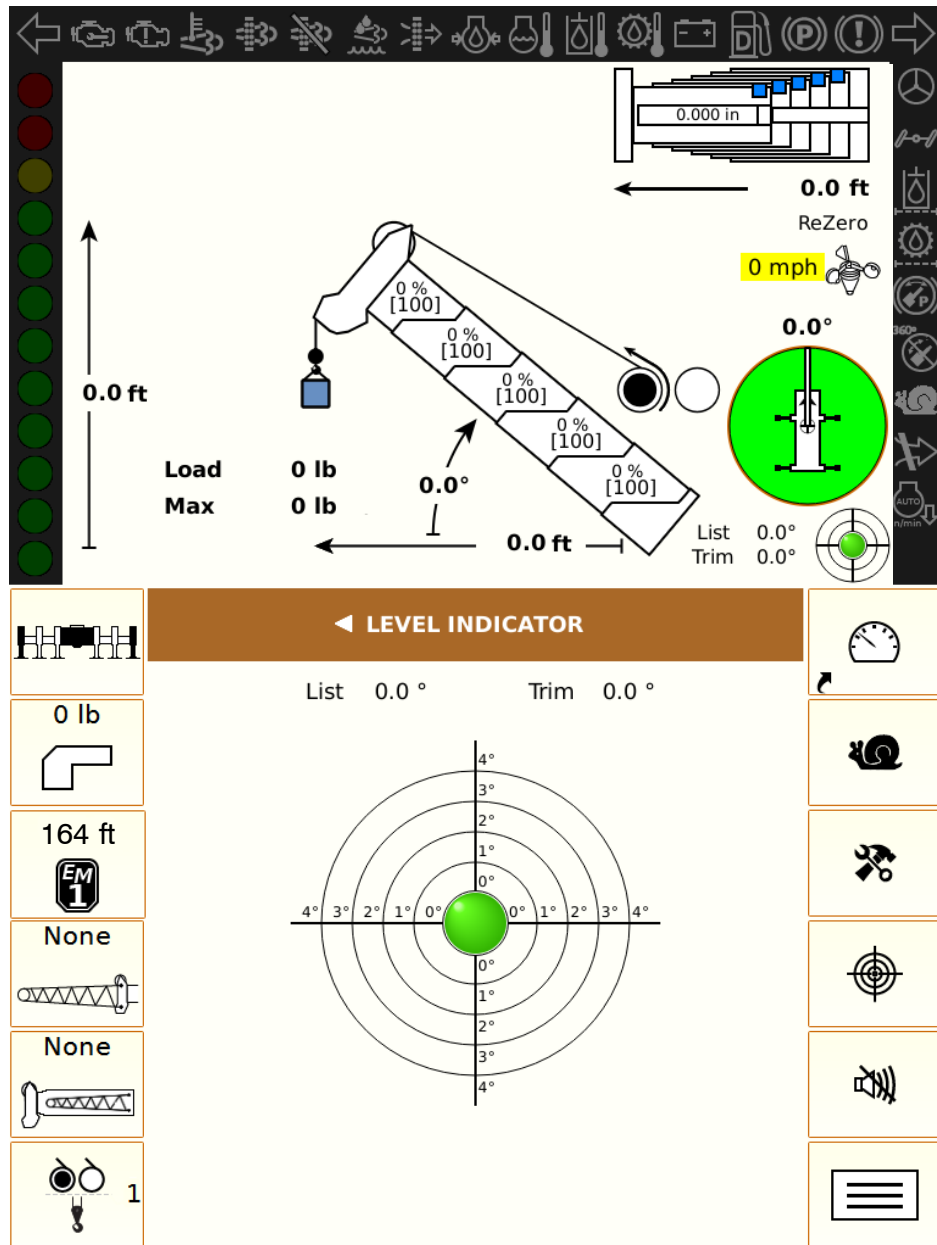

Figure 1–160
1. From the Main Menu Screen, press the Level Indicator Button . Refer to Figure 1–89.
2. The Level Indicator Screen will appear. Refer to Figure 1–160.